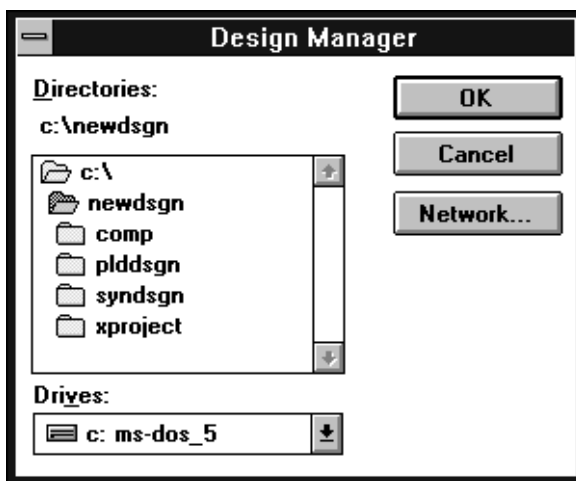

Figure 2-6 The Work Directory Browse Dialog Window
4. Specify your working directory. You can browse through the available directories by clicking on Browse, which brings up the dialog window as shown in Figure 2-6. From here, select the working directory and click OK.